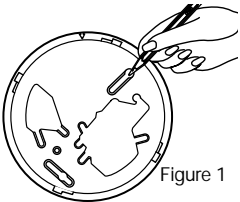

Figure 1
3. Hold the mounting bracket against the ceiling (or wall) and trace around the inside of the two keyhole slots labeled "RPON" and "FGHI". (Fig. 1)